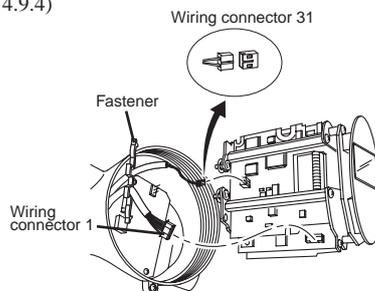

Figure 4.9.4 Remove the Wiring Connector 31
- (6) Pull the assembly straight out.
- (7) Remove the wiring connector31. (Figure 4.9.4)
- (1) To replace the amplifier assembly, follow the procedures used to remove it in the reverse order.
- (2) Connect wiring connector31. (Figure 4.9.4)